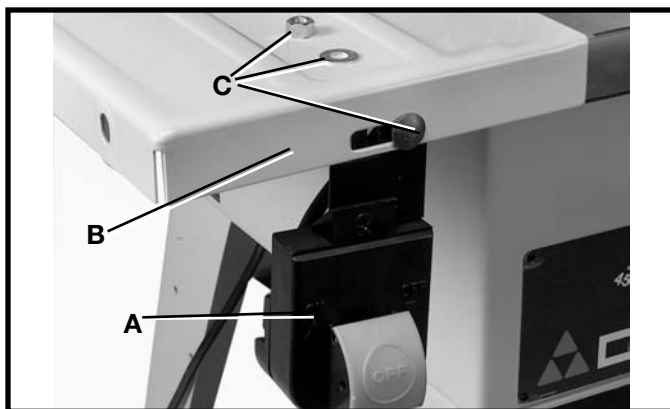

Fig. 38
1. Assemble switch bracket (A) Fig. 38, to the front of extension wing (B) and fasten with 3/8-16 x 1" long carriage head bolt, flat washer, and hex nut (C). **Note:** When installing the UniRip Fence, this bolt must be loosened.